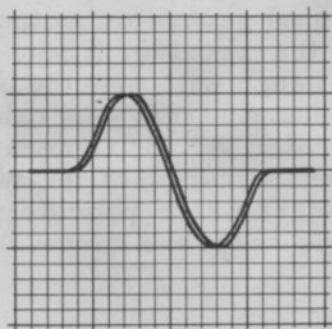
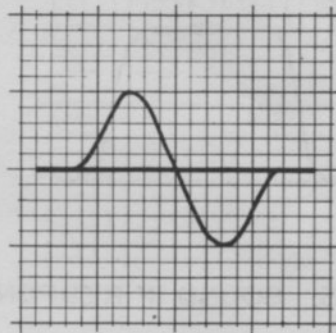

FIG. 12. DISCRIMINATOR RESPONSE - IN PHASE - BLANKING OFF
FIG. 13. DISCRIMINATOR RESPONSE — BLANKING ADJUSTED
5. Advance VERTICAL GAIN until the pattern is about one inch high. The pattern will be two S-shaped response curves. Adjust the PHASING control to bring the curves in phase as shown in figure 12.
6. Adjust F.M. SWEEP so the response curve covers most of the horizontal trace as shown in figure 12. Readjust the PHASING if the traces are not superimposed. If the response curve is not centered on the trace, reset the CENTER FREQUENCY pointer to center the pattern. Advance the BLANKING control to produce a pattern as shown in figure 13; a single curve with a base line through it.
11. Adjust the discriminator primary (L8 in figure 11) until a maximum amplitude symmetrical pattern is achieved as shown in figure 13. Reduce the F.M. ATTENUATORS as the amplitude of the curve increases. Recheck the secondary adjustment if the 400 cycle pattern re-appears.